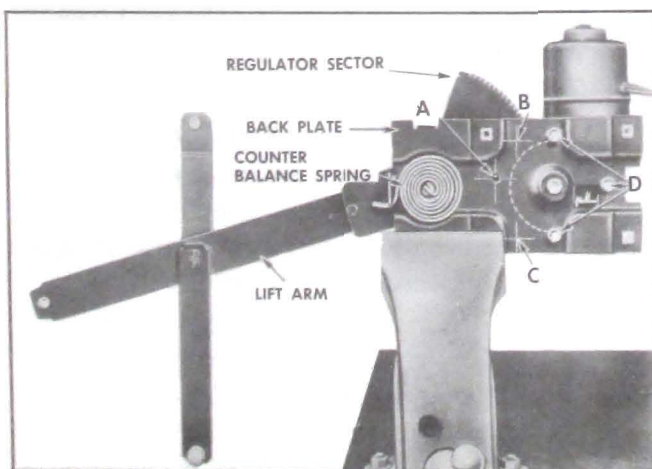

Figure 13-40—Door Window Electric Regulator
1. Remove electric window regulator assembly from door as described under "FRONT DOOR WINDOW REGULATOR ASSEMBLY — REMOVAL AND INSTALLATION" and clamp securely in vise, Figure 13-40.
2. Drill $\frac{1}{4}$ " hole through backplate and sector at location indicated by "A," "B" or "C" in Figure 13-40, depending on position of lift arm.
4. Remove the three (3) attaching bolts "D" and remove motor assembly from regulator, Figure 13-40.